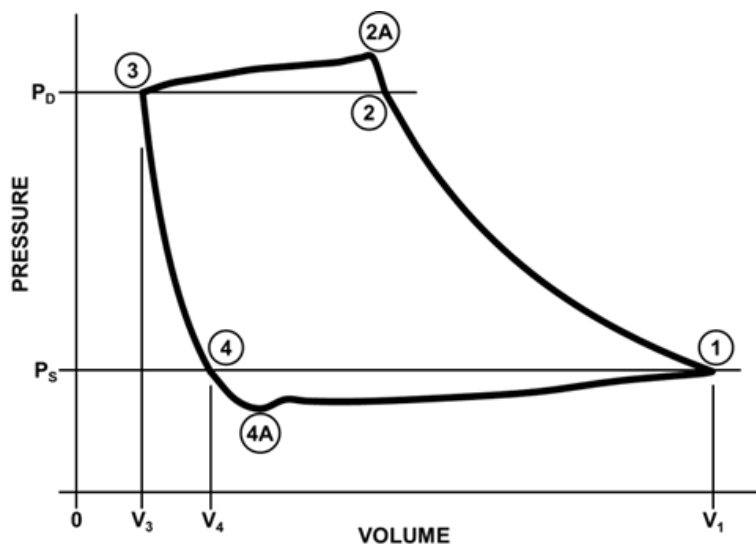
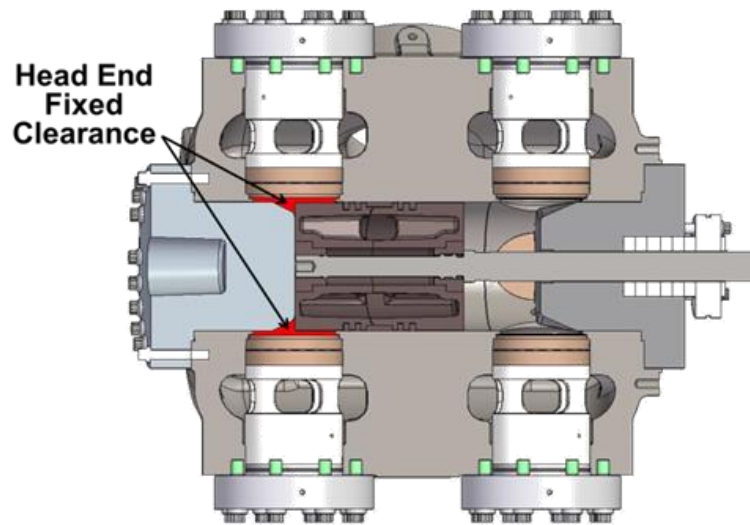

Figure 1
Figure 2
A reciprocating compressor is a fairly simple machine and easy to understand the basic mechanics. This tutorial focuses on what occurs in the compression chamber of a compressor cylinder, and more specifically on the P-V diagram (Figure 1). How much gas is compressed and how much power is required for that compression are both derived directly from the P-V diagram. Hence, understanding the P-V diagram is critically important and forms the foundation for a deeper understanding for how a reciprocating compressor works.
A reciprocating compressor is a positive displacement machine in that a volume of gas is drawn into a compressor cylinder's compression chamber where it is trapped, compressed and pushed out. The P-V diagram is a plot of the pressure of the gas versus the volume of the gas trapped in the compression chamber. In Figure 1, P_s , suction pressure, represents the pressure of the gas at the inlet to the compressor cylinder. P_D , discharge pressure, represents the pressure of the gas at the outlet from the compressor cylinder. V_1 represents the maximum volume of gas trapped in the compression chamber and V_3 the minimum. The difference between V_1 and V_3 is known as piston displacement, or how much volume is displaced in one stroke length of the piston:
Referring to Figure 1, the P-V diagram is made up of four basic segments or events, 1-2, 2-2A-3, 3-4, and 4-4A-1, and each will be explained. Position 1 has the maximum volume (V_1) of gas trapped in the compression chamber and that gas is at suction pressure and temperature. At Position 1 all of the compressor valves are closed and the piston is at rest. All of the compressor valves are simple spring-loaded check valves and are not actuated by any outside means. As the crankshaft rotates the piston will move and the volume inside the compression chamber decreases (moving from Position 1 to 2). From Position 1, as the volume decreases, the gas pressure increases (the gas is trapped in the compression chamber with the volume decreasing). When the pressure inside the compression chamber becomes slightly higher than discharge pressure (P_D , at position 2), the discharge compressor valve will open. This completes the first segment of the diagram and is called the compression event.
The fixed clearance volume (V_3 in Figure 1) is the volume of gas remaining in the compression chamber at the discharge end of the stroke that must expand from discharge pressure (P_D) to suction pressure (P_S) before the suction compressor valve can open and the suction event begin. Figure 2 is a cross-section of a typical compressor cylinder assembly with some of the fixed clearance volume highlighted in red.
Fixed clearance (CL) is expressed as a percentage of the piston displacement (referring to Figure 1):
Volumetric efficiency (VE) is the percentage of stroke that fills with gas at suction pressure and suction temperature. In equation form (referring to Figure 1):
The compression and expansion events are modeled thermodynamically as adiabatic processes, meaning it is assumed that no heat is transferred to or from the gas during these events. An adiabatic thermodynamic process is an isentropic (constant entropy) process. The area of the P-V diagram in Figure 1 bounded by 1-2-3-4-1 is the adiabatic power.